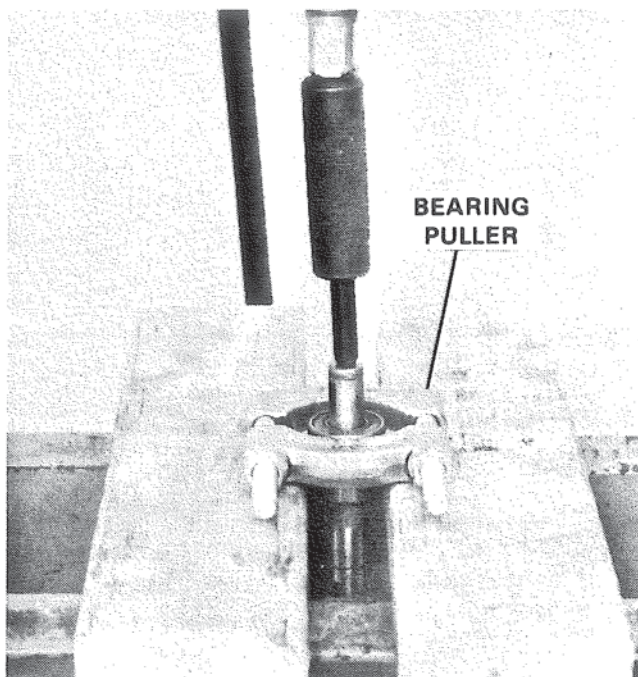

Figure 6. Removing Bearings.
F. Remove retaining ring and press bearings and spacer one at a time, from shaft, using a suitable tool. Figure 6.